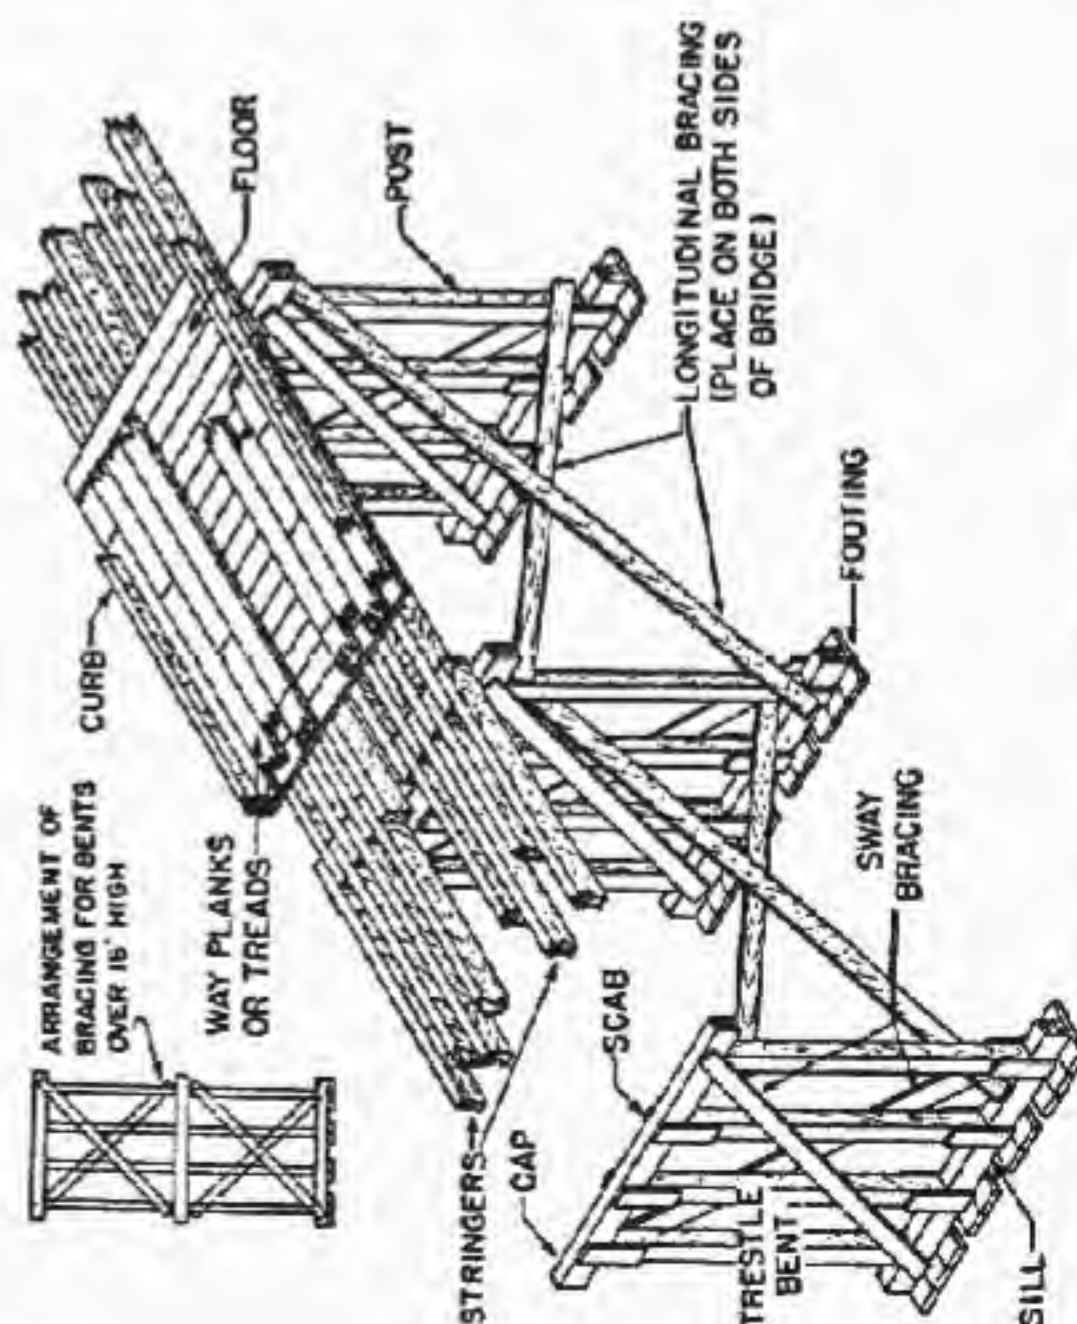

FIGURE 115.—Standard wooden trestle-bent bridge.
- d. **Bent.**—Built-up intermediate support in bridge (see fig. 115).
b. *The trestle-bent bridge* consists of two or more stringer spans. The supports between the abutments are trestle bents. (See fig. 115.)